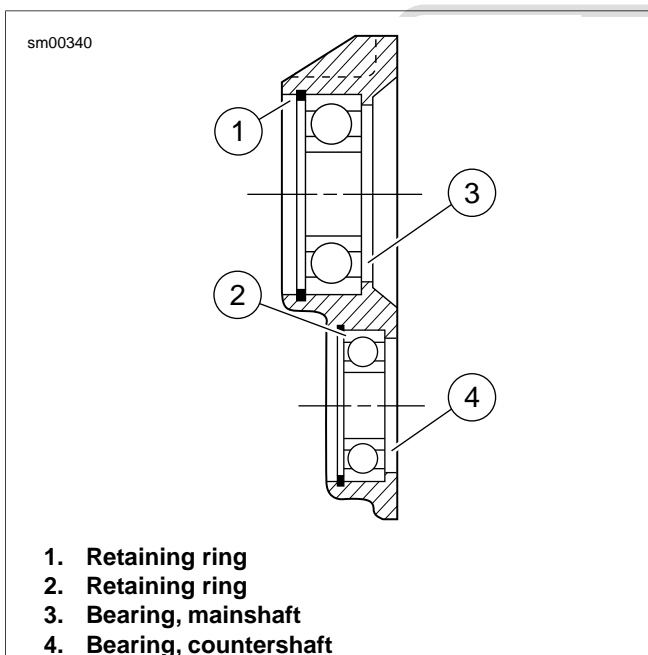

Figure 5-84. Ball Bearing Assembly
3. See Figure 5-84. Inspect the mainshaft (3) and countershaft (4) ball bearings for pitting, scoring, discoloration or other damage.